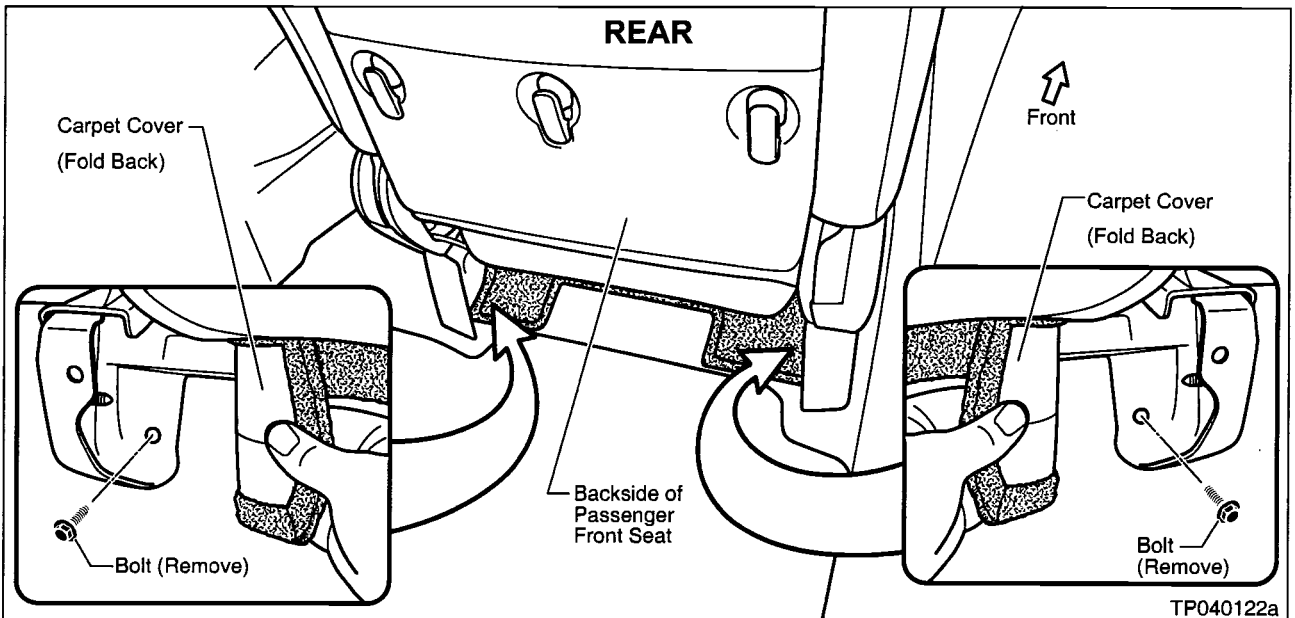

Figure 7
- a. To reach the Mounting Bolts, carefully fold the Carpet Cover back towards the rear of the vehicle (see Figure 7).